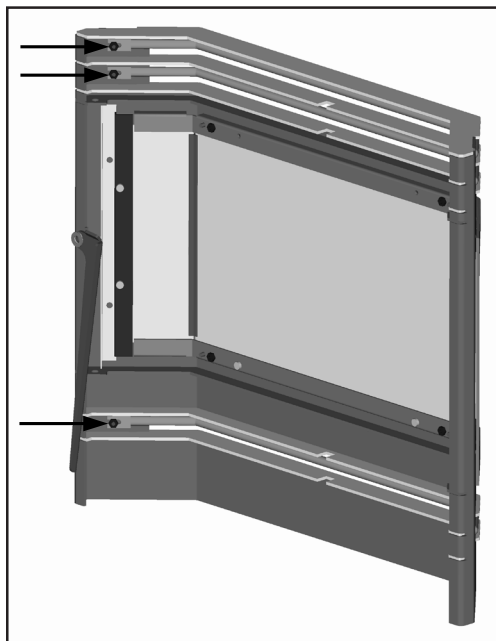

Figure 44: Door with louvers.
Door must be open. The three (3) arrows in Figure 44 point to three (3) of the nuts that hold the louvers on. There are three nuts on each end. Remove the six nuts by hand; if the nuts are tight, a $1\frac{1}{32}$ " socket can be used. When removing the louvers, pull one end of the louver up over the stud. If it is difficult to remove the louver, push on one side from the front, then pull the other end off the second stud.